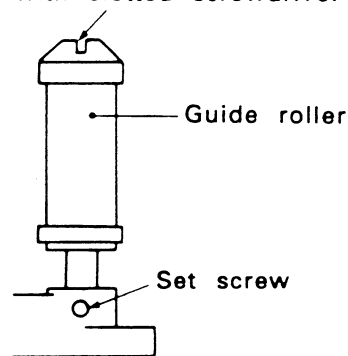

Fig.6-5 Guide roller height adjustment
- Slightly loosen set screws of the supply and take-up guide rollers as shown in Fig.6-5.